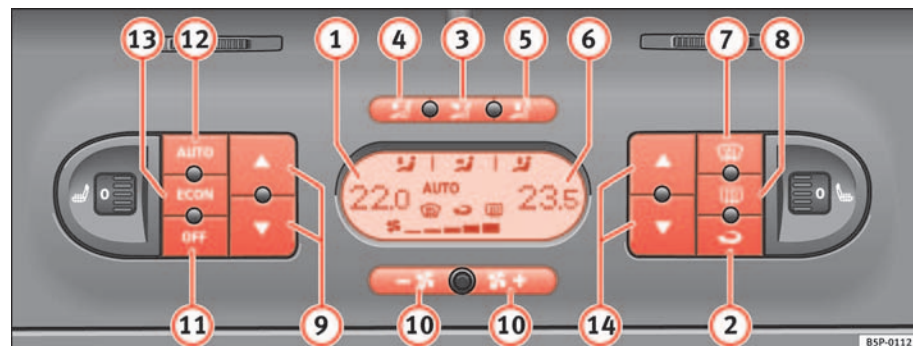

Fig. 126 On the dash panel: 2C Climatronic controls
- To enter manual mode, press one of the buttons ⇒ fig. 126 ③ to
⑤, (ECON) or turn the air flow control ⑩. The symbol (AUTO) will disappear from the display. ►
- Press the button   page 154, fig. 126  to switch air recirculation mode on or off. It is switched on if the following symbol appears in the display .